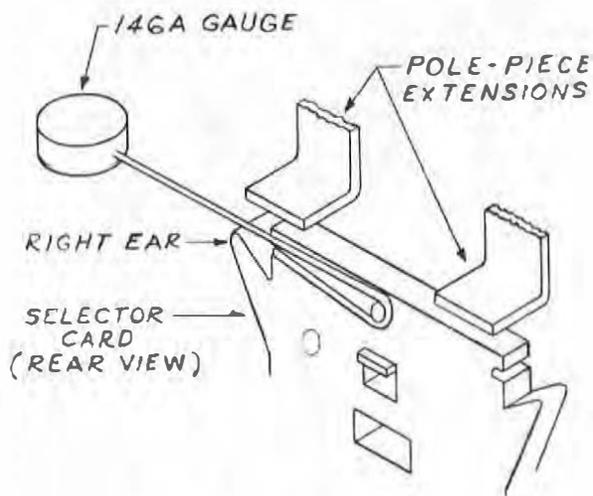

Fig. 5 — Bias Margin Test
- (1) To test collect operation, place 146A gauge on right side of selector card as shown in Fig. 5. Make sure wiring does not interfere with movement of gauge.
- (2) Connect hand test set across line terminals.
- (3) Trip coin trigger.
- (4) Obtain collect current by any available local arrangement. Selector card shall cause cam and vane to operate to collect position. Check that operation of vane through hopper throat is correct. If lighting is insufficient, use flashlight beam directed at interior of hopper through return opening on left side, or clean out opening on right side. Trigger shall restore. Make test three times.